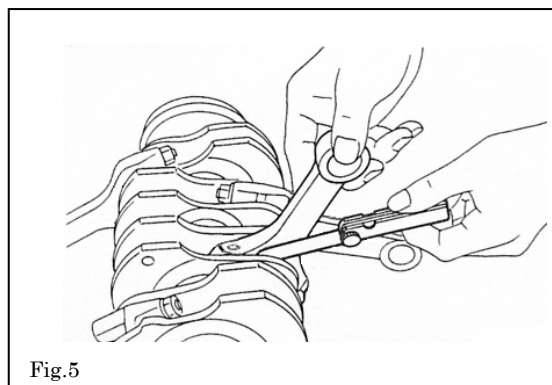

Fig.5
3.3 Measure the thrust clearance with a thickness gauge. (See the figure 5.)